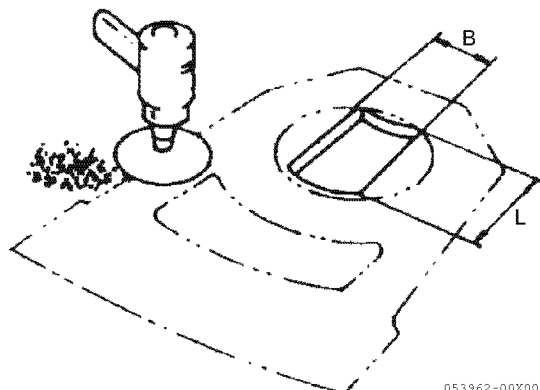

Figure 15
7. Cut a hole through the hull bottom (Figure 15).